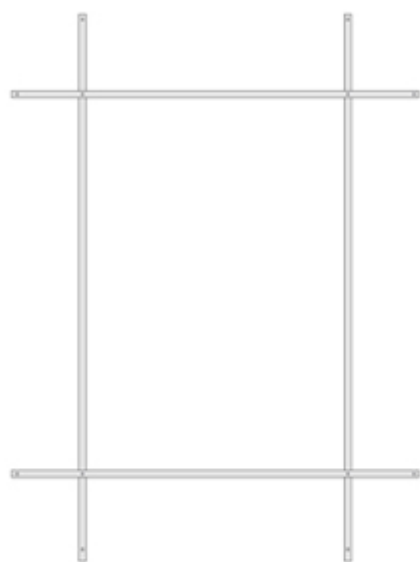

Figure 1
1. Assemble the base frame of the bed by connecting the 2 large rails and 2 smaller rails of the base frame. Tighten in the four connecting points with large flat-head Allen screws. (Figure 1)